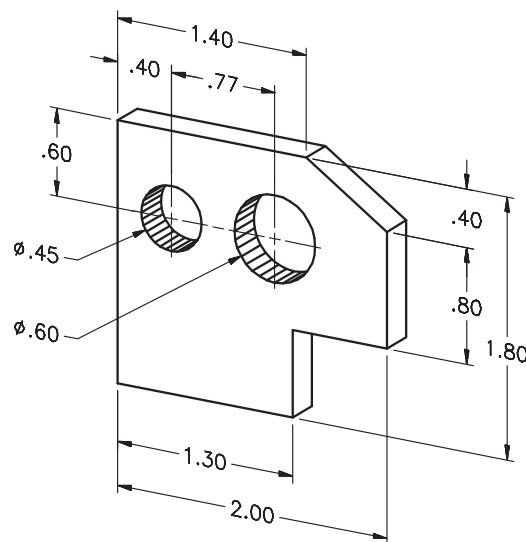

Fig. 7-14
**5.** Draw the front view of the spacer plate shown in Fig. 7-14. Start the drawing at the lower left corner by entering a first point using absolute coordinates of **3,3**. Determine and use the best methods of coordinate entry to draw the spacer plate. Save the drawing as **prb7-5.dwg**.